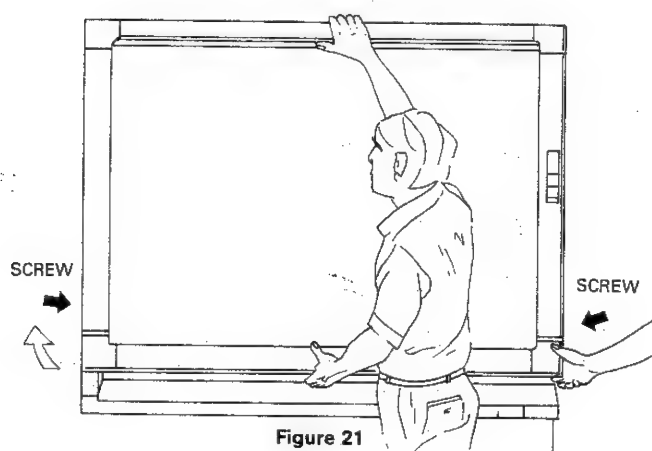

Figure 21
- (1) Remove the two screws at the right and left sides of the front frame.
- (2) Pull out the right or left bottom corner of the front frame and detach the bottom of the front frame. Hold the top and the bottom of the frame and lift it up at an angle to Detach the hooks and Remove to dismount the front frame from the main body frame. (Figure 21)